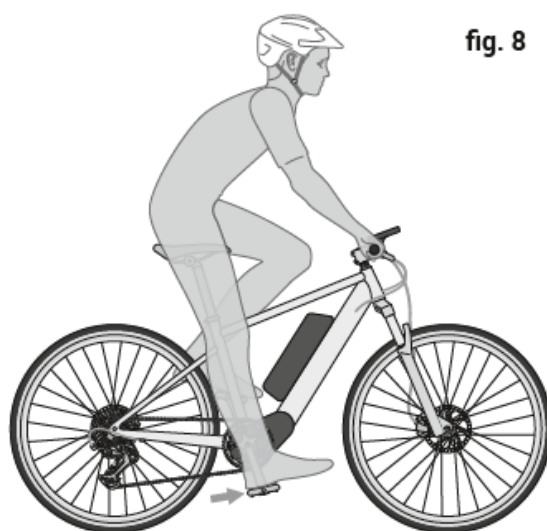

fig. 8
1. Up and down adjustment. To check for correct saddle height (**fig. 8**):